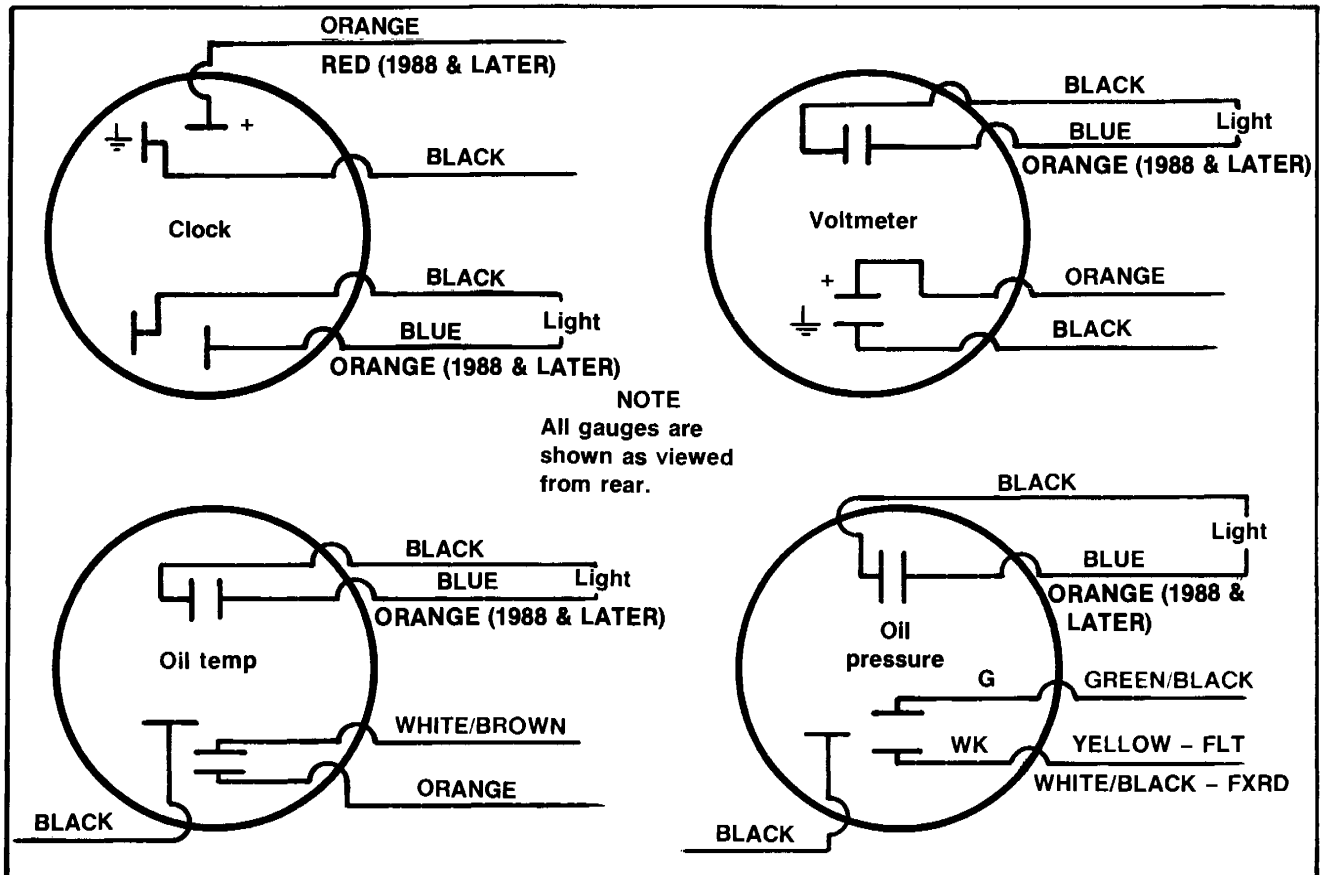

Figure 2-106 Connections for Gauges
See Figure 2-106 for wire connections at rear of gauges. Removal and installation of instruments and gauges is covered following this troubleshooting subsection.
1. On FLHT/C vehicles, remove light bar and outer fairing. See FAIRING AND WINDSHIELD later in this section. On FLT/C vehicles, remove headlight bucket assembly. See Figure 2-106 for gauge lead locations.